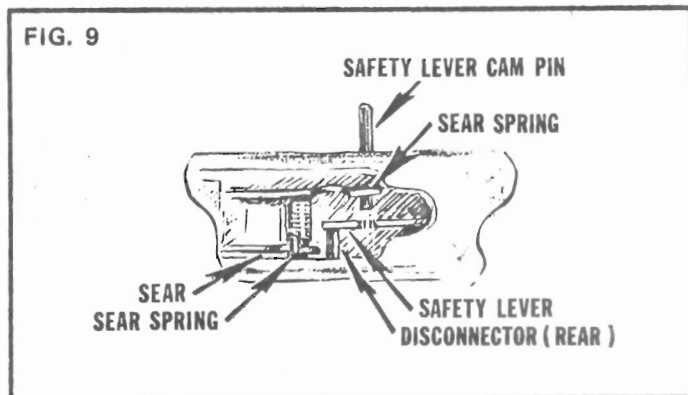

FIG. 9
Turn rifle bottom up and tap out safety lever cam pin part way until clear of safety lever only. Cam pin should then hold sear spring under tension and in proper assembly. See Fig. 9 Safety assembly will be loosened.
**To Reassemble** — Follow reverse order. Make certain front spur on safety lever assembles easily to properly lift rear of disconnecter from engagement with trigger cap. Long end of sear spring should locate to safety lever cam pin for tension purposes. See Fig. 9